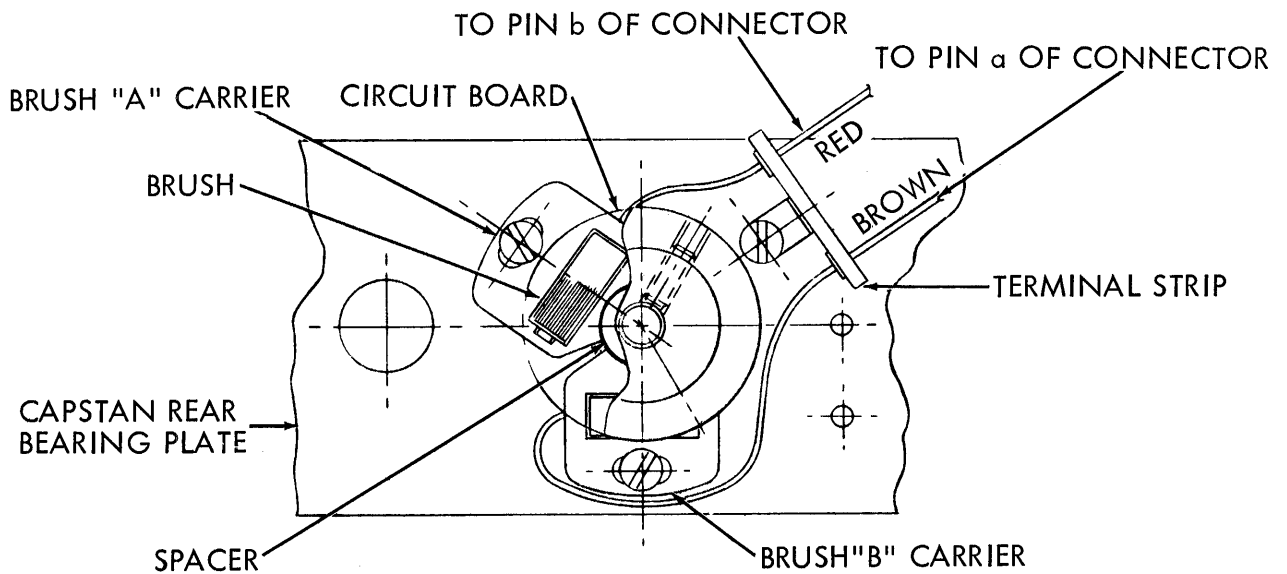

Figure 16. Capstan Commutator
6.2.2 Mechanical Operation (See Figure 16)